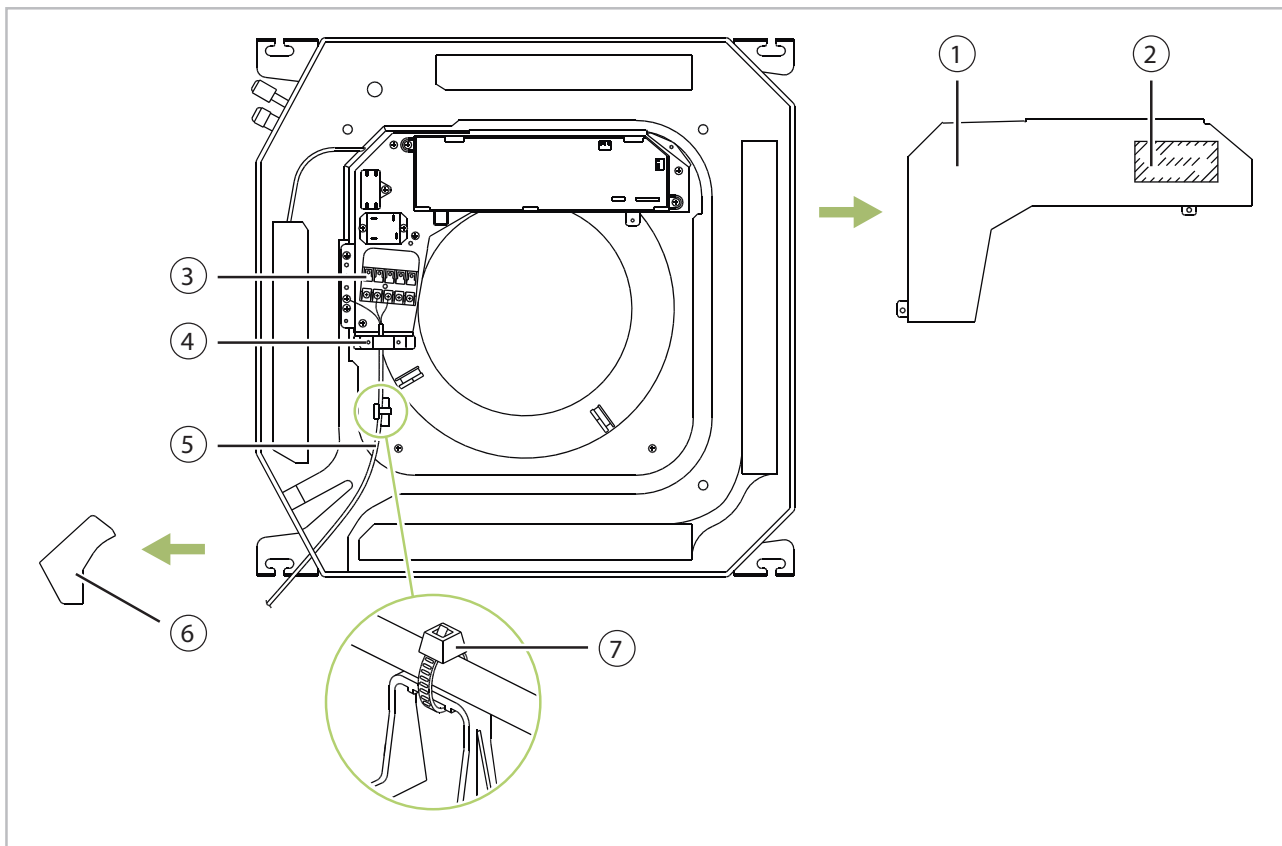

Fig. 38: Connecting the indoor unit
2. ➤ Loosen the switch cabinet's cover (Fig. 38).